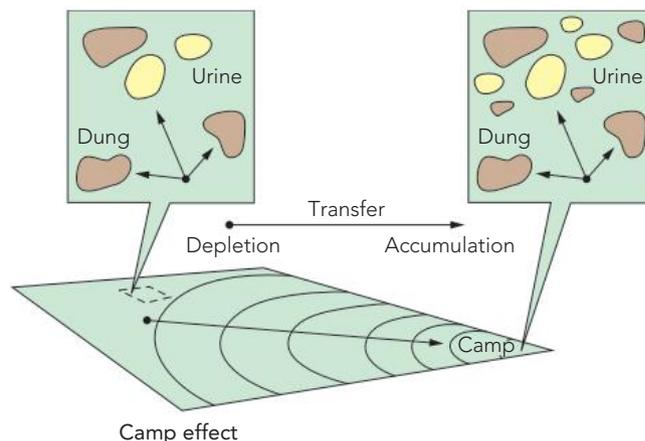

Figure 22.7 The distribution of dung and urine and the effect of a stock camp on nutrient transfer in a paddock
- **Nutrient transfer.** Some of the mineral nutrients eaten by livestock are lost from the system because they are taken out in products, such as meat, milk and wool. However, most of the nutrients are in fact returned in the form of dung and urine. The problem is that they are not uniformly distributed over the pasture. Nutrients might become concentrated in areas where animals camp (Fig. 22.7), around watering points, and around dairy sheds/yards where cows are brought twice a day for milking.